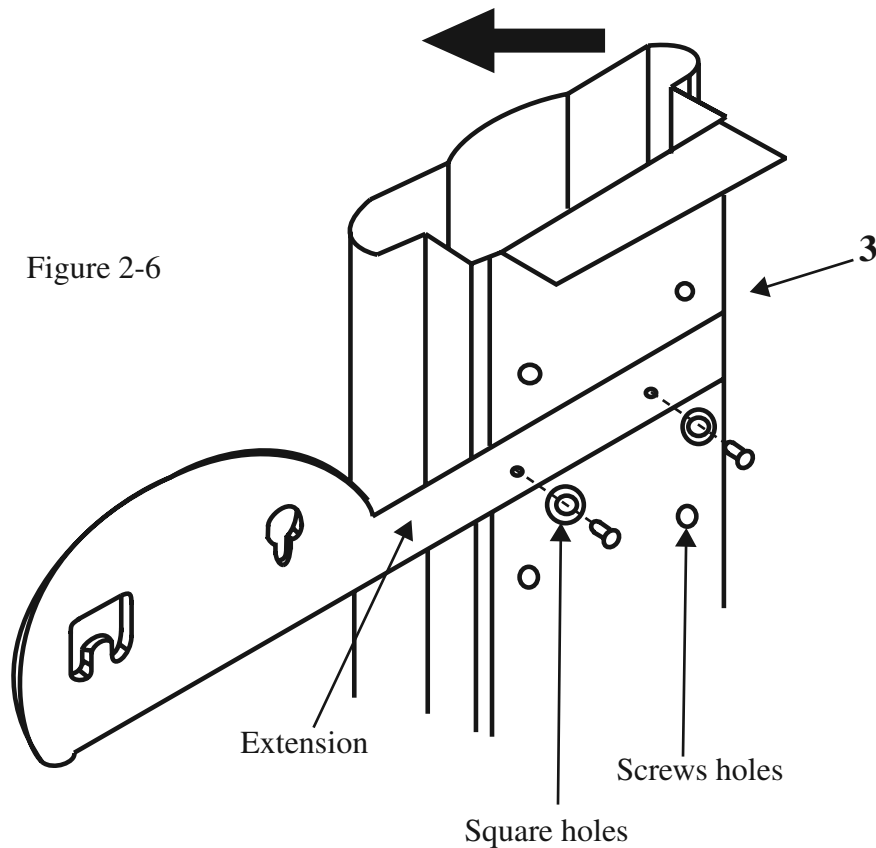

Figure 2-6
- Insert the roll holder support with the screws into the holes of the stand then tighten them as Figure 2-6. You can choose roll holder support's position by inserting into different holes.